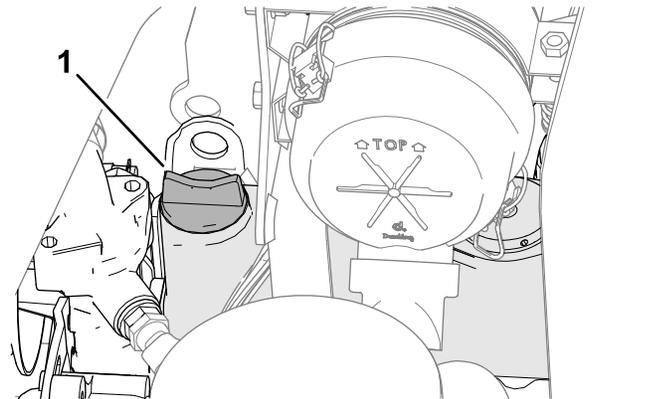

Figure 69
5. If the oil level is low, remove the oil-fill cap (Figure 69) and gradually add small quantities of oil, checking the level frequently, until the level reaches the Full mark on the dipstick.